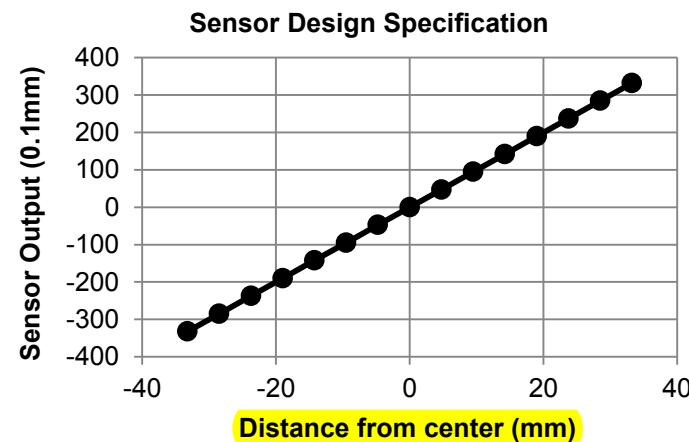
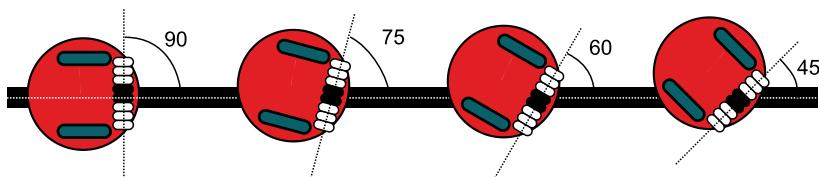

Figure 4. Desired output of the measurement system.
Figure 5. It is desired for the system to be able to measure relative distance to the center of the line for a wide range of angles.
Figure 4 shows the desired output of the sensor measurement system. Basically, you are asked to create an output that varies from -330 to +330 (units 0.1mm) as a function of the position of the robot relative to the line.
**Specificity** is a measure of relative sensitivity of the system to the desired signal compared to the sensitivity of the measurement to other unwanted influences. A system with a good specificity will respond only to the signal of interest and be independent of these other factors. The unwanted influence you will study is angle to the line, as defined in Figure 5. In particular, you will create response curves like Figure 4, for angles 90, 75, 60, and 45 degrees.